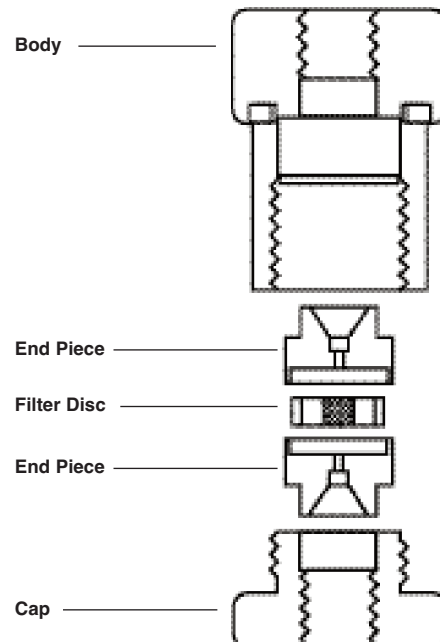

Fig. 1. Exploded view of the Column Inlet Filter.
Refer to Figure 1 and proceed as follows:
- Screw the cap into the body until the threads on the cap do not show. The Column Inlet Filter should be assembled as shown in Figure 1.